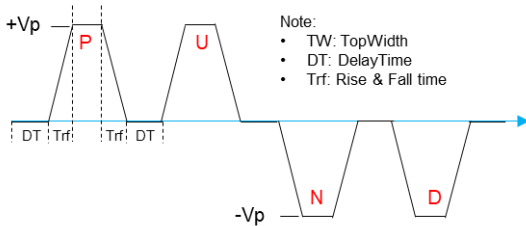

Figure 2-43. FeRAM Endurance test: PUND waveform.
This application test performs stress/measure cycle endurance repeat tests for user specified PUND pulse sequences as shown in Figure 2-43.
Set the following test parameters as shown in the next table by referring to Figure 2-43.
- "Max_loops": The Figure 2-43 waveforms are repeated for fatigue repeat cycles.